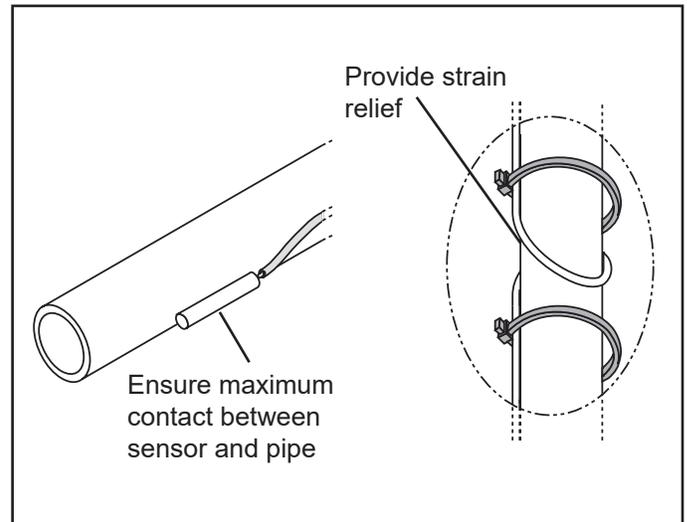

Figure 11. Maximum Contact and Strain Relief
4. Ensure there is strain relief in the cable. See Figure 11.
5. Ensure maximum contact between the sensor surface and the pipe. See Figure 11.